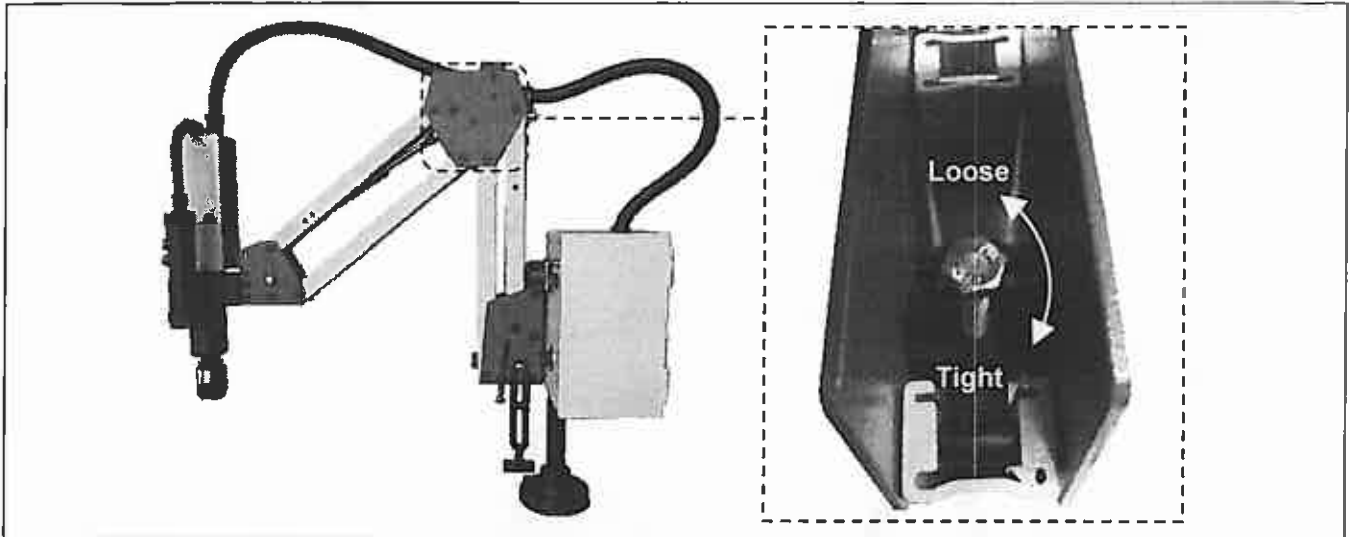

Figure 7-4
- (1) Rotate screw clockwise to make air spring tight, counterclockwise to loosening air spring (see Figure 7-4).